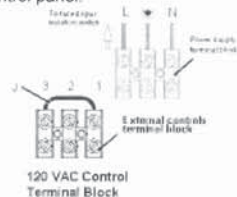

Figure 12.6
- When connecting any type of external control, the jumper J in Fig. 12.6 must be removed.